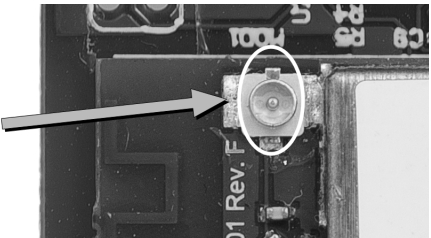

Figure 3- u.FL Terminal
1. Connect the u.FL end of the antenna cable to the u.FL terminal on the DIM10-087-00. (see Figures 3 and 4)